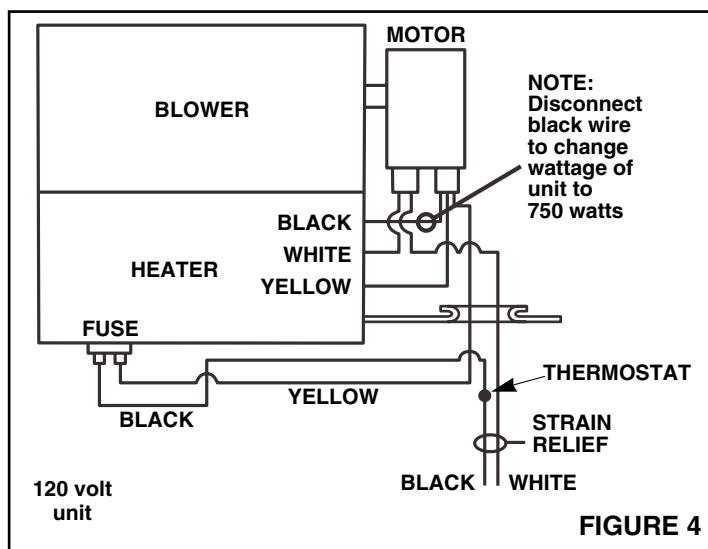

FIGURE 4
**NOTE:** The heater is wired (shipped from the factory) for 1500 watts. The wattage may be reduced to 750 watts by disconnecting the red wire (on 240 volt unit) or the black wire (on 120 volt unit) as illustrated in Figures 4 and 5.
1. **Refer to Figures 4 and 5.** Reconnect thermostat wire from heater unit. make wiring connections in junction box: black supply wire to black lead from thermostat and white to white or red to red. Connect ground wire to green ground screw in junction box.